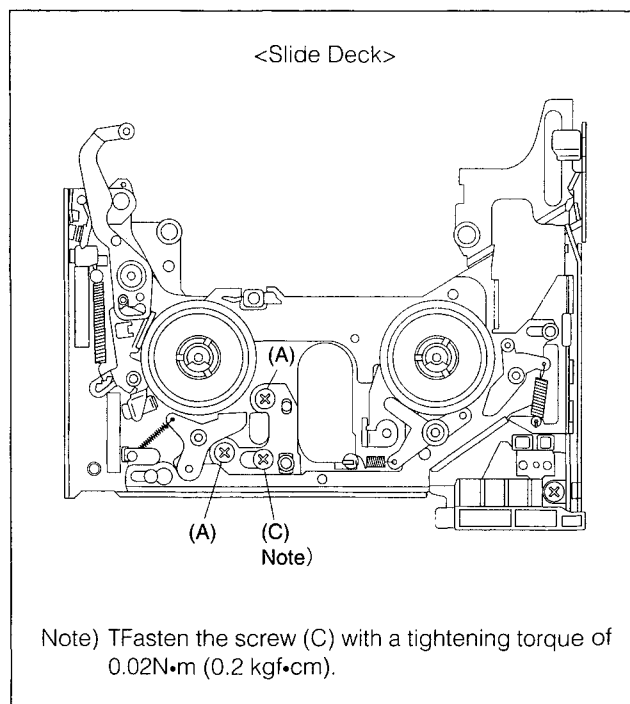

Fig. 2-2-15
- (4) Tighten the screw (C) on the slide deck first, and then tighten the two screws (A). (See Fig. 2-2-15.)